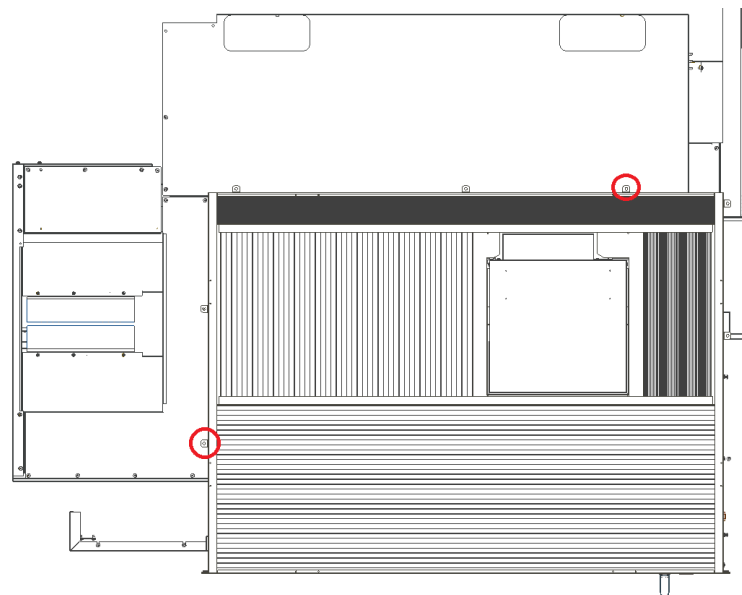

Figure 1: Alignment Mounting Brackets
- c. On the back-right mounting bracket hole (shown in Figure 1 below), drill a 7/32” hole into the UMC-750 enclosure.
- f. On the forward most mounting bracket on the left side of the roof cover frame (see Figure 1), drill a 7/32" hole.